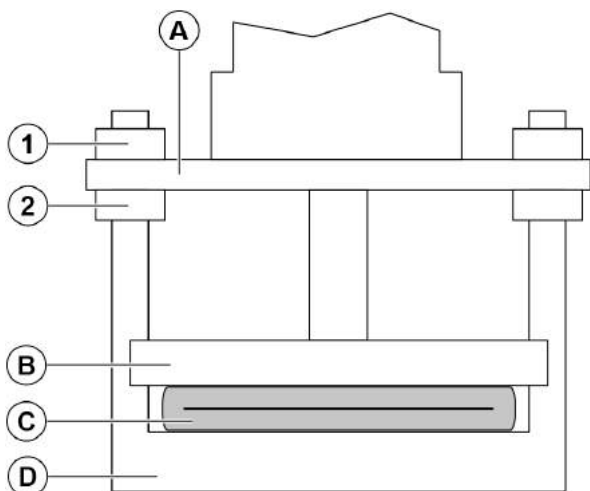
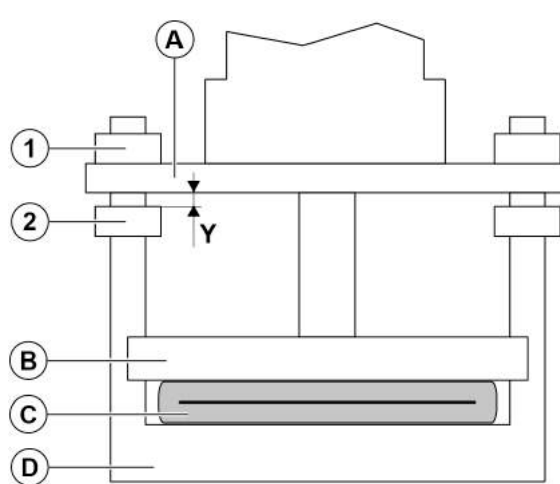

Figure 17.
Figure 18.
2. Adjust the pinch bars parallel to each other with the nuts, which are on both sides of actuator fixing plate (*Figure 17*, nuts 1 and 2). From one end of the sleeve an even, narrow light strip should be visible on the whole squeezed section of the sleeve or symmetrically on both sides (*Figure 17* and *Figure 18*, dimension X).
If the valve is hand wheel operated, it is enough to check that the pinch bars are parallel, and the light slit is shown (*Figure 17* and *Figure 18*, dimension X).